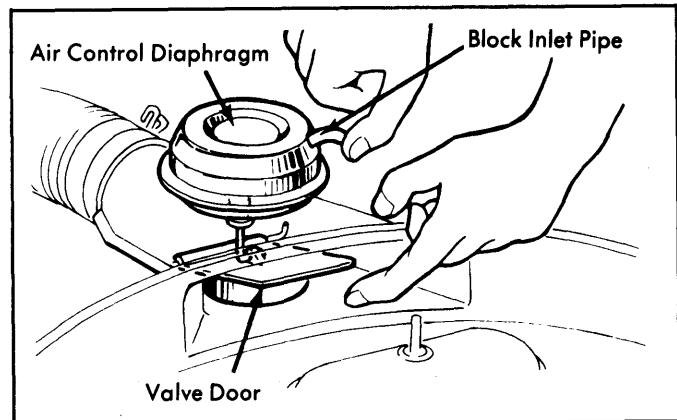

Fig. 2: Testing Air Control Diaphragm & Check Valve
3) Test air control diaphragm and check valve. To do so, disconnect vacuum hose from the air control diaphragm. Raise air control valve door manually and, while blocking the inlet pipe, release the valve door. See Fig. 2.